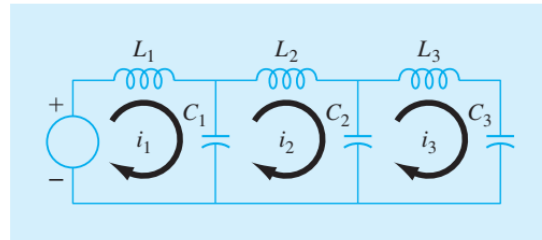

FIGURE P13.6
13.6 As displayed in Fig. P13.6, an LC circuit can be modeled by the following system of differential equations: